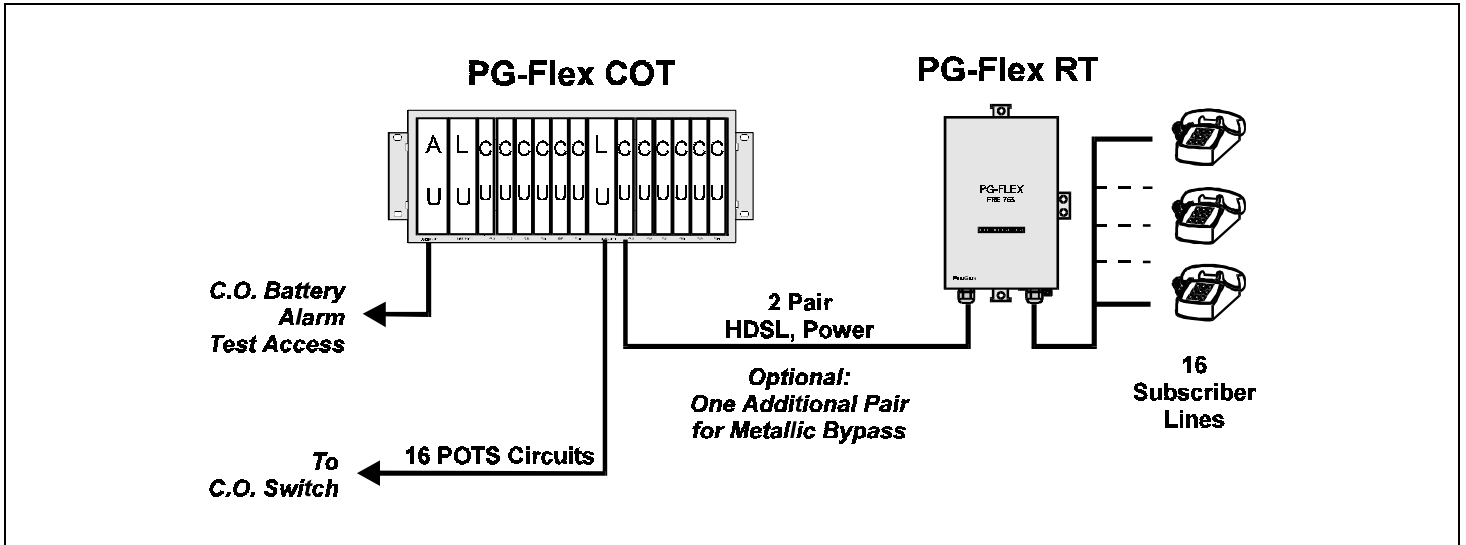

Figure 2. Typical PG-Flex Configuration.
2.02 System Flex Configuration. A PG-Flex system, shown in Figure 2, consists of:
- Remote Terminal (RT). The RT Enclosure provides a weatherproof housing for the PG-Flex remote electronics and subscriber terminations. The enclosure accepts one common RT Line Unit and up to four Channel Units. The Remote Terminal communicates with, and is line-powered from, the COT over two pairs of 19- to 26-gauge (0.9 mm to 0.4mm) twisted-pair telephone wire. Each pair carries both power and HDSL signaling.
2.05 For the system configuration depicted in Figure 2, the maximum distance between the COT and the RT is 10.7 kft (3.3 km), assuming the HDSL lines are 24 gauge (0.5 mm). Table 1 shows the maximum distance between the COT and RT for various gauge wire. Due to the nature of HDSL transmission technology, the HDSL lines do not require any special conditioning and may include unterminated bridge taps, but cannot include load coils.